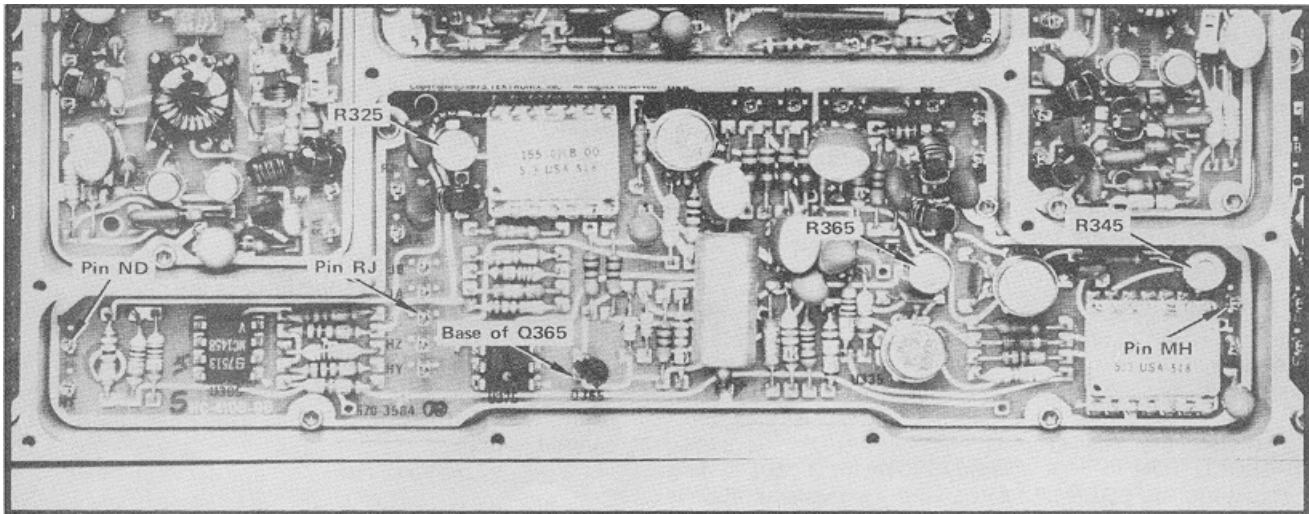
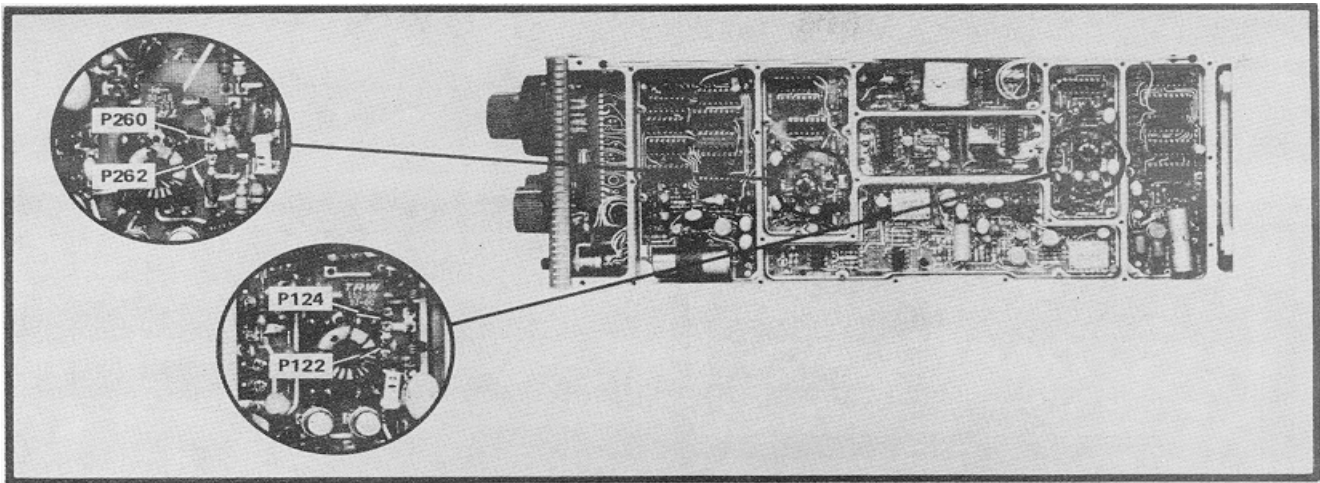

Fig. 4-6. Test point and adjustment locations for the A & B Oscillator Control.
Fig. 4-8. Location of A & B Oscillator frequency determining jumpers.
b. Connect a DVM (digital voltmeter) to the base of Q365 (A and B Oscillator Control 7) and adjust R365 (Fig. 4-6) for a reading of 11.00 volts.
1. Adjust R655 (Fig. 4-8) for 0 V at pin RJ (Fig. 4-6) then add or remove jumpers P122 and/or P124 (Tektronix Part No. 131-1493-00) so the DOT is close to, but not to the right of, center screen (high frequency side).
e. Set the DOT FREQUENCY to 00.00 kHz and connect the DVM to pin MH (A Memory) of the A and B Oscillator Control (Fig. 4-6). Note the voltage.
g. Adjust the A Memory Gain with R345 (Fig. 4-6) until the voltage difference between step e and f is 16.6 to 16.; volts.
h. Set the DOT FREQUENCY to 50.00 kHz then check the voltage at pin ND of the A and B Oscillator Control (Fig. 4-6). If the voltage is more than  $\pm 1.5$  V, remove or add jumpers P260 and P262 (Fig. 4-8) to decrease the voltage below  $\pm 1.5$  V.
i. Set the DOT FREQUENCY to 99.75 kHz. Measure the voltage at pin ND of the A and B Oscillator Control assembly (Fig. 4-6). Note this voltage.
k. Adjust the B Gain with R325 (Fig. 4-6) until the voltage difference at pin ND, between the two DOT FREQUENCY settings (steps i and j), is 18.0 volts.